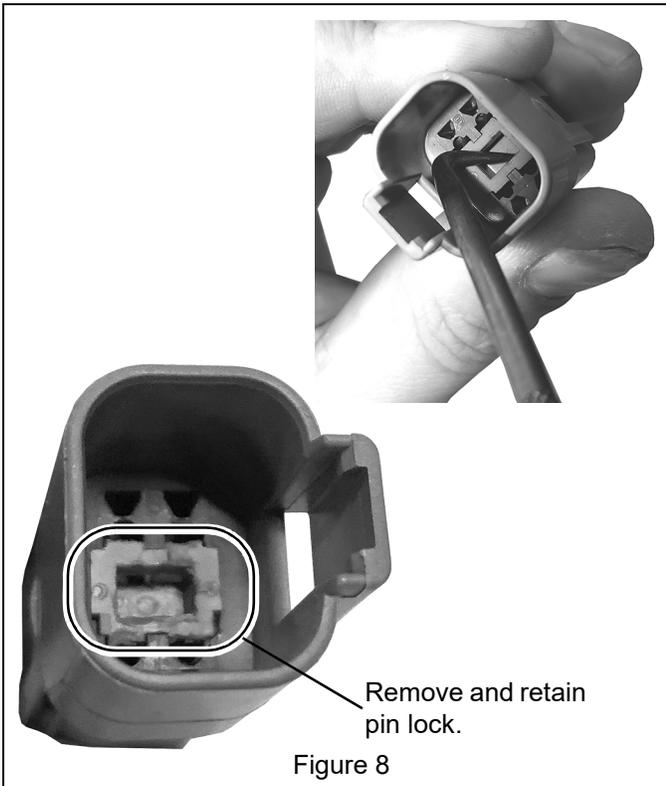

Figure 8
12. Using a right-angle pick or similar tool, remove and retain pin lock from inside connector. See Figure 8.